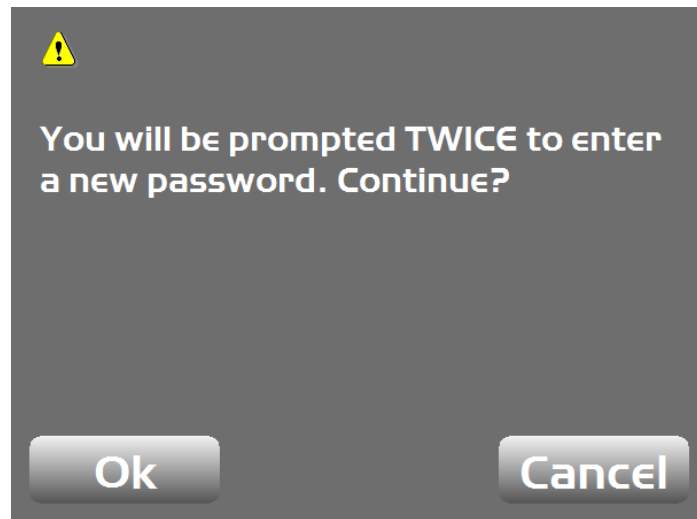

Figure 89: Change Password Confirmation
2. Tap **OK** at the prompt (Figure 89).